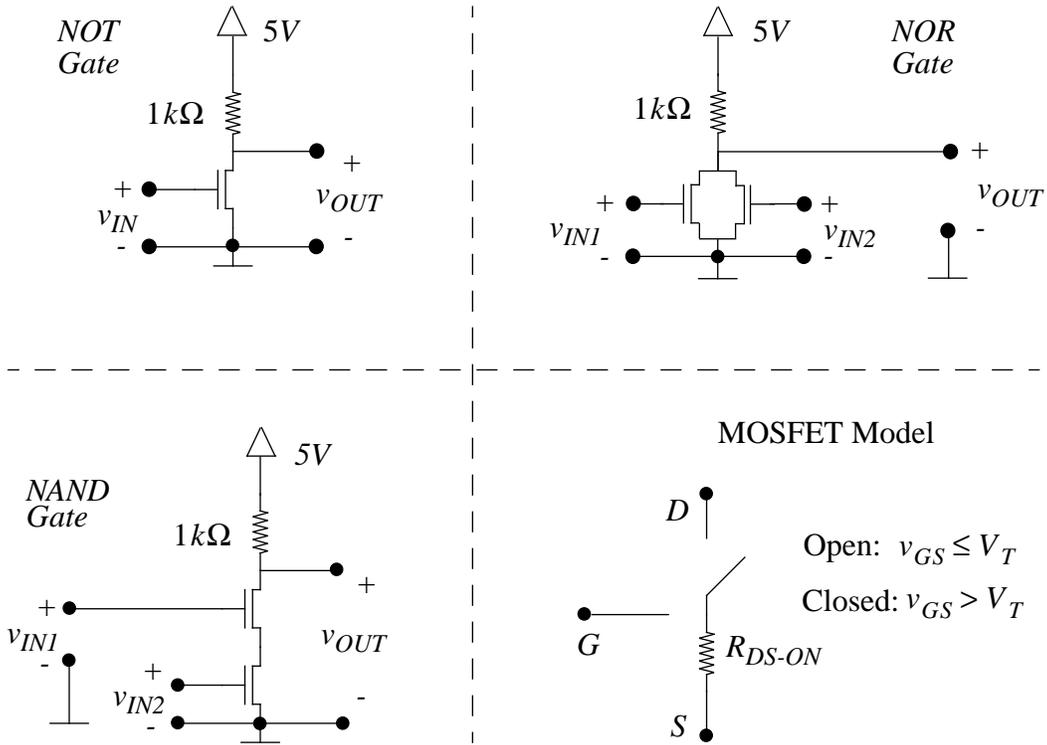
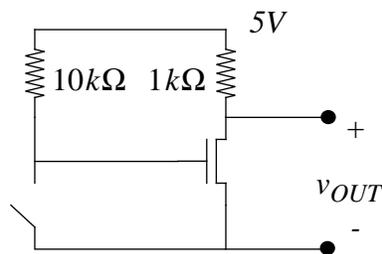

Figure 2: a NOT gate, a NOR gate, a NAND gate, and the switch-resistor MOSFET model.
Figure 6: experimental NOT gate.
- (1-3) Figure 2 shows a NOT gate, or inverter, a NOR gate and a NAND gate constructed from n-channel MOSFETs and $1 \text{ k}\Omega$ resistors. The figure also shows a switch-resistor model for the n-channel MOSFET. Using the switch-resistor model, compute v_{OUT} for all three gates. In doing so, consider all combinations of input voltages; an input voltage may be either above or below the MOSFET threshold voltage V_T . In each case, evaluate v_{OUT} assuming $R_{\text{DS-ON}} = 4 \text{ } \Omega$. Summarize your results for each gate in a table.
gates shown in Figure 2.
- (1-6) Construct the NOT gate from Figure 2 and connect its input to a switch and 10 k Ω resistor as shown in Figure 6. For both switch positions, that is for both logic input levels to the gate, measure v_{OUT} with the multi-meter.
- (1-7) Construct the NOR gate from Figure 2. As for the NOT gate shown in Figure 6, connect the inputs to the NOR gate to switches and 10 k Ω resistors. For all combinations of switch positions, that is for all combinations of logic input levels to the gate, measure v_{OUT} with the multi-meter. *Save the NOR gate for In-Lab Exercise 1-9.*